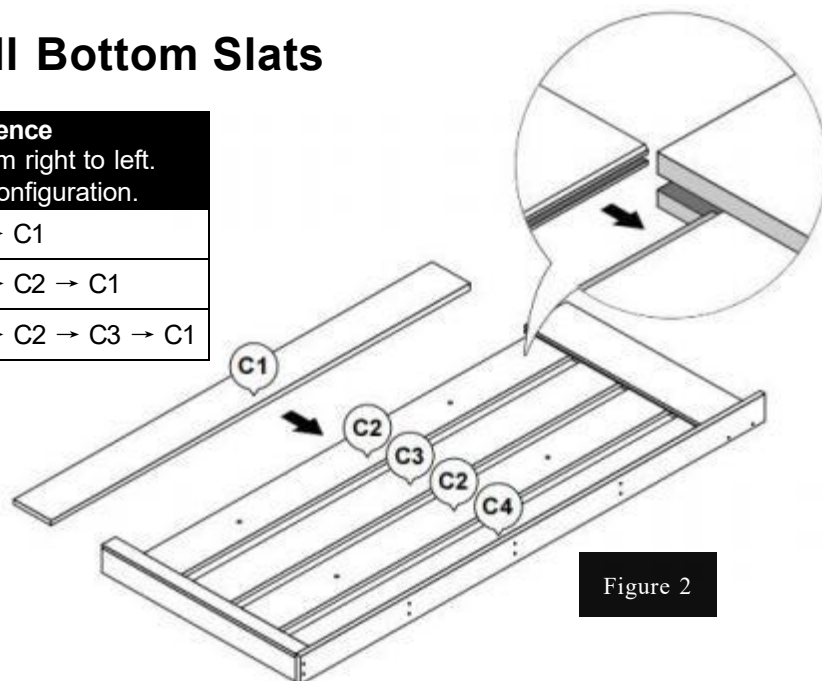

Figure 2
See Figure 2 for the 36" configuration.
- According to Figure 2, insert all of C1 to C4 into the assembled B1&B2&A1 panels in the order shown.